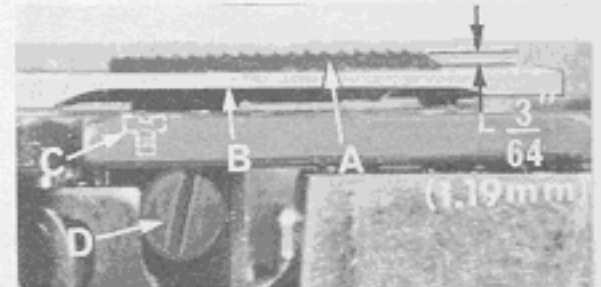

Fig. 11
Set the feed dog (A, Fig. 11) in the throat plate (B) so there is equal clearance on all sides. See that the tips of the teeth extend the depth of a tooth or approximately $\frac{3}{64}$ inch (1.19 mm) above the throat plate and are parallel with the throat plate at high point of travel. Adjust the supporting screw (C), under the feed dog, to maintain this setting. Screw (D) is used to hold feed dog in position.